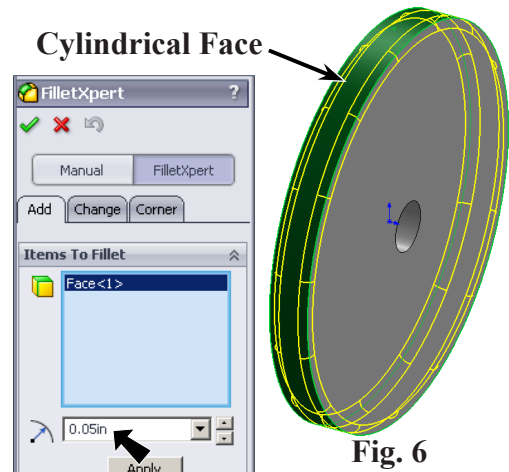

Fig. 6
Step 1. Click the cylindrical face of the wheel to select it, **Fig. 6**.